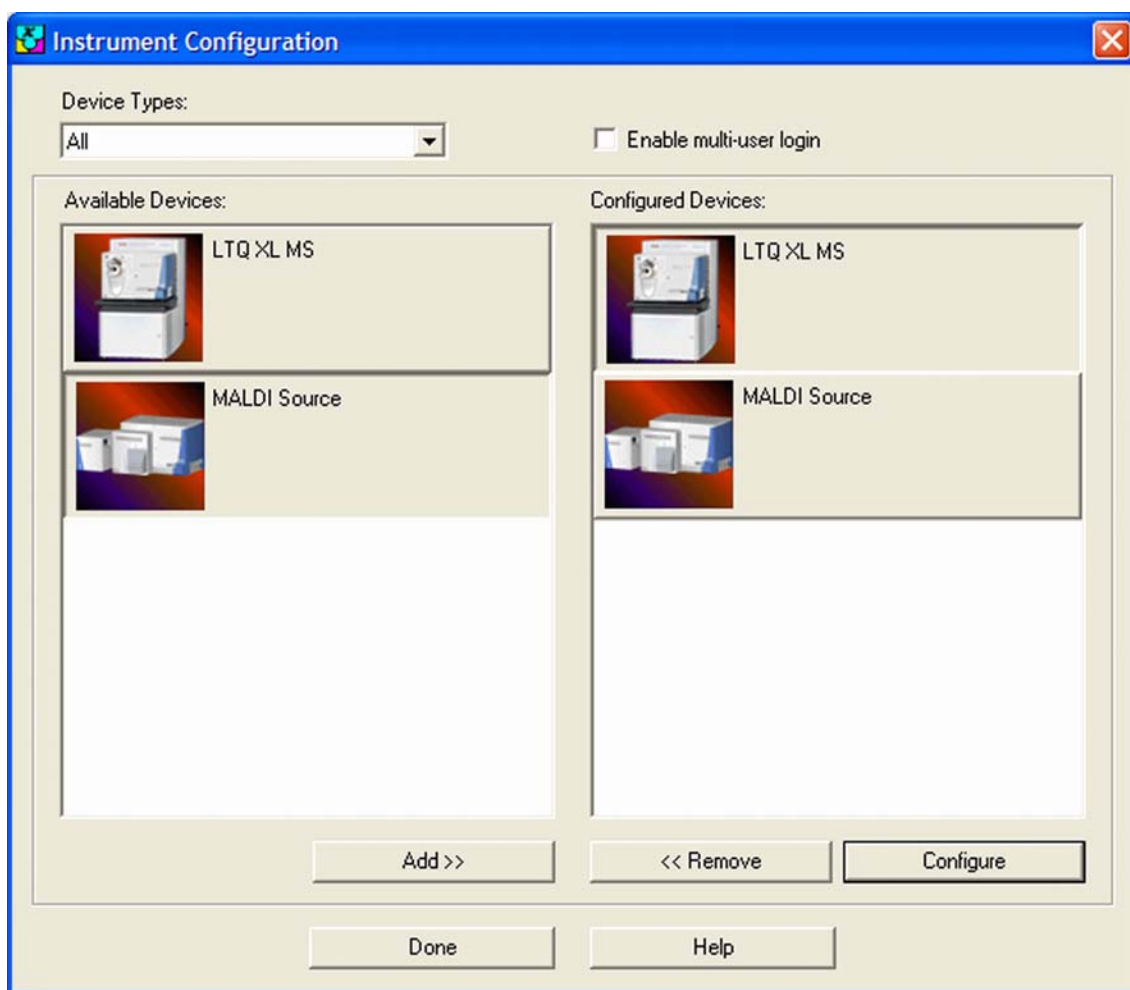

Figure 7-17. Instrument Configuration window
1. From the Instrument Configuration window, click on **LTQ Orbitrap Discovery MS** in the Configured Devices group box. See Figure 7-17.